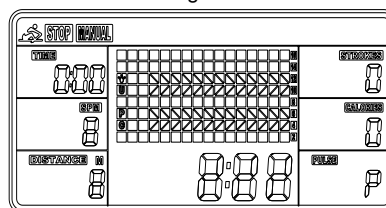

Fig. 4
**(1) MANUAL (Fig. 4):** There are 2 options in MANUAL mode.